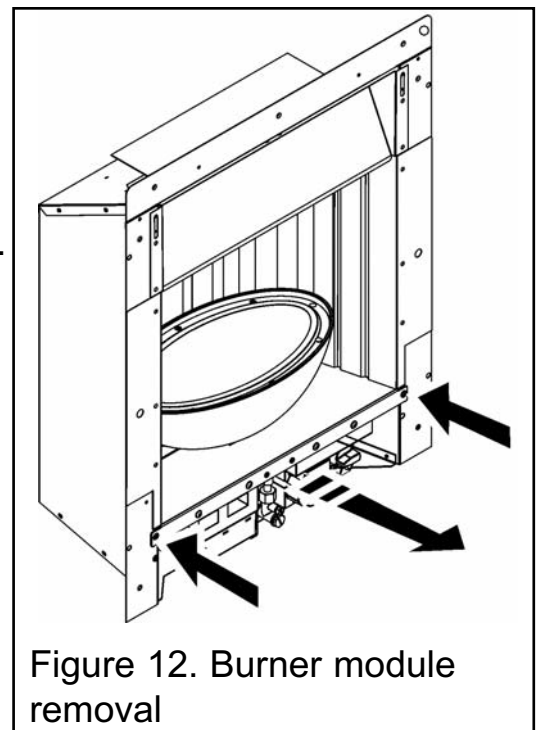

Figure 12. Burner module removal
2. Remove the two screws to the side of the burner assembly (See figure 12).